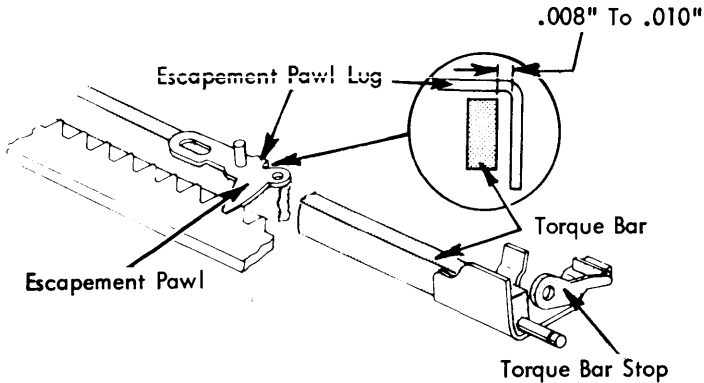

FIGURE 95. *Torque Bar Stop (New Style)*
- a. New Style - The torque bar stop located at the right end of the torque bar should be adjusted for a rest position clearance of .008" to .010" between the torque bar and the lug on the escapement pawl (Fig. 95).